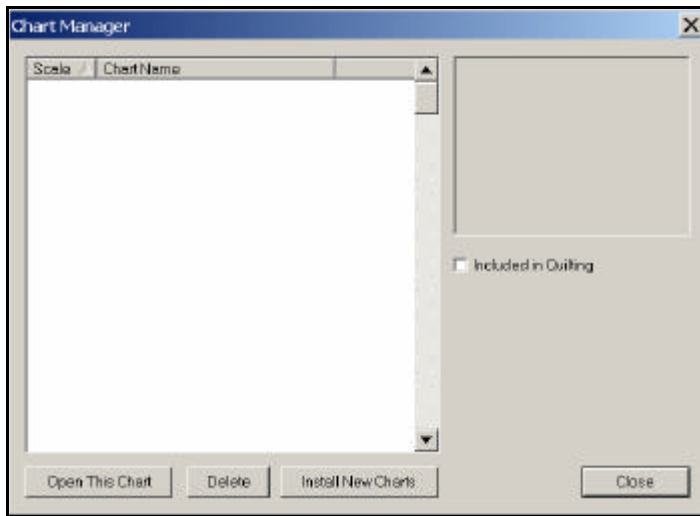

Figure 4-2. Chart Manager Screen 1
3. Double-click on the Raster Charts icon. Chart Manager screen 1 is displayed (Figure 4-2).